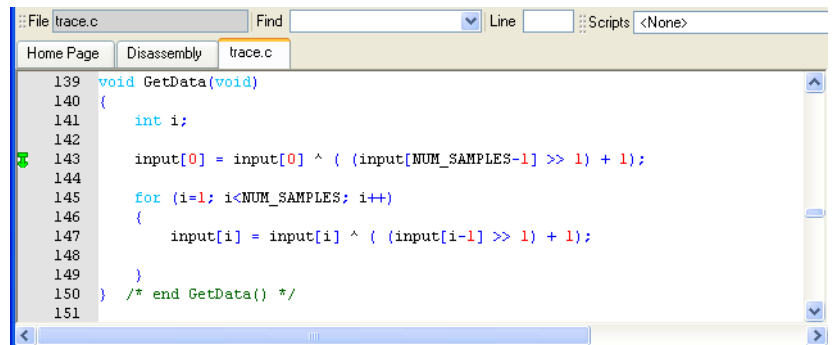

Figure 10-37 Start of Excluded Trace Range set at line 142
- f. Click **OK**. The dialog box closes, and a Start of Excluded Trace Range tracepoint is set as indicated by the green arrow . Figure 10-37 shows an example: